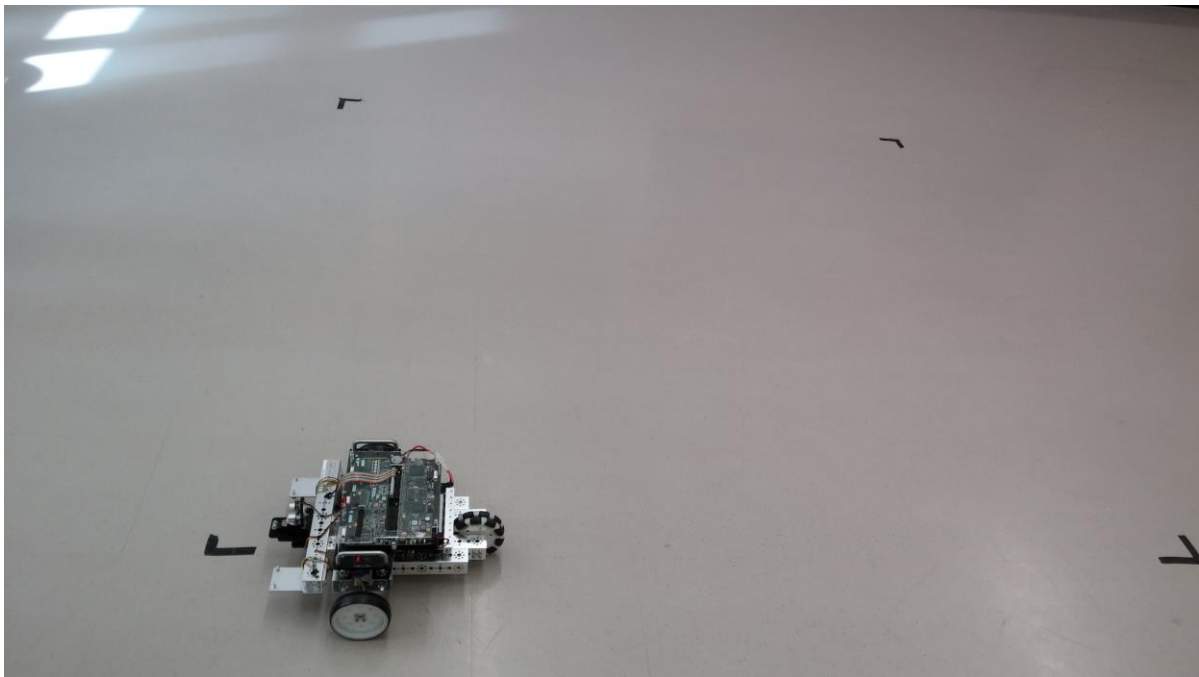

Figure 2: Robot Traversing 2x2 meter square
6. In order to meet the demonstration requirements the required fine tuning was done. And the demonstration of the robot traversing the around the 2x2 meter square was then delivered. Figure 2 shows the robot inside the 2x2 meter square along which it traversed.